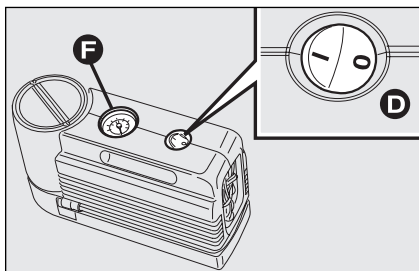
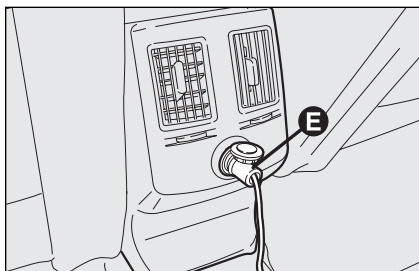

fig. 4
fig. 5
- ☐ make sure the compressor switch **D-fig. 4** is set to 0 (off), start the engine and fit plug **E-fig. 5** into the nearest current outlet and then turn on the compressor by setting switch **D-fig. 4** to **I** (on). Inflate the tyre to the pressure specified in paragraph "Inflation pressure" in section "Technical Specifications".
Check tyre pressure on gauge **F-fig. 4** with compressor off to obtain precise reading;